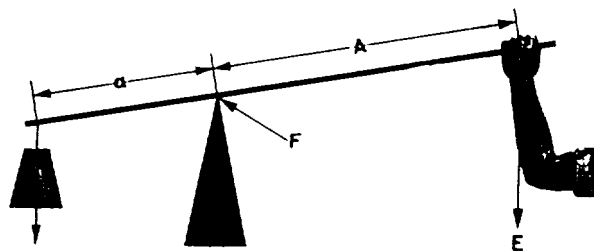
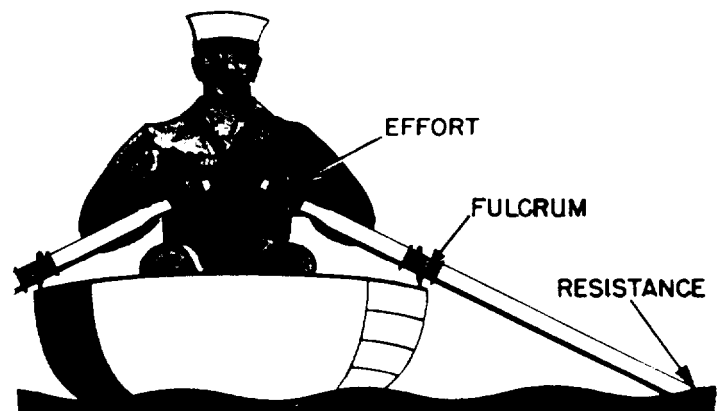

Figure 1-1.-A simple lever.
Figure 1-3.-Oars are levers.
You will find that all levers have three basic parts: the fulcrum (F), a force or effort (E), and a resistance (R). Look at the lever in figure 1-1. You see the pivotal point (fulcrum) (F); the effort (E), which is applied at a distance (A) from the fulcrum; and a resistance (R), which acts at a distance (a) from the fulcrum. Distances A and a are the arms of the lever.
Notice that the sailor in figure 1-3 applies effort on the handles of the oars. An oar is another good example. The oarlock is the fulcrum, and the water is the resistance. In this case, as in figure 1-1, the force is applied on one side of the fulcrum and the resistance to be overcome is applied to the opposite side; hence, this is a first class lever. Crowbars, shears, and pliers are common examples of this class of levers.